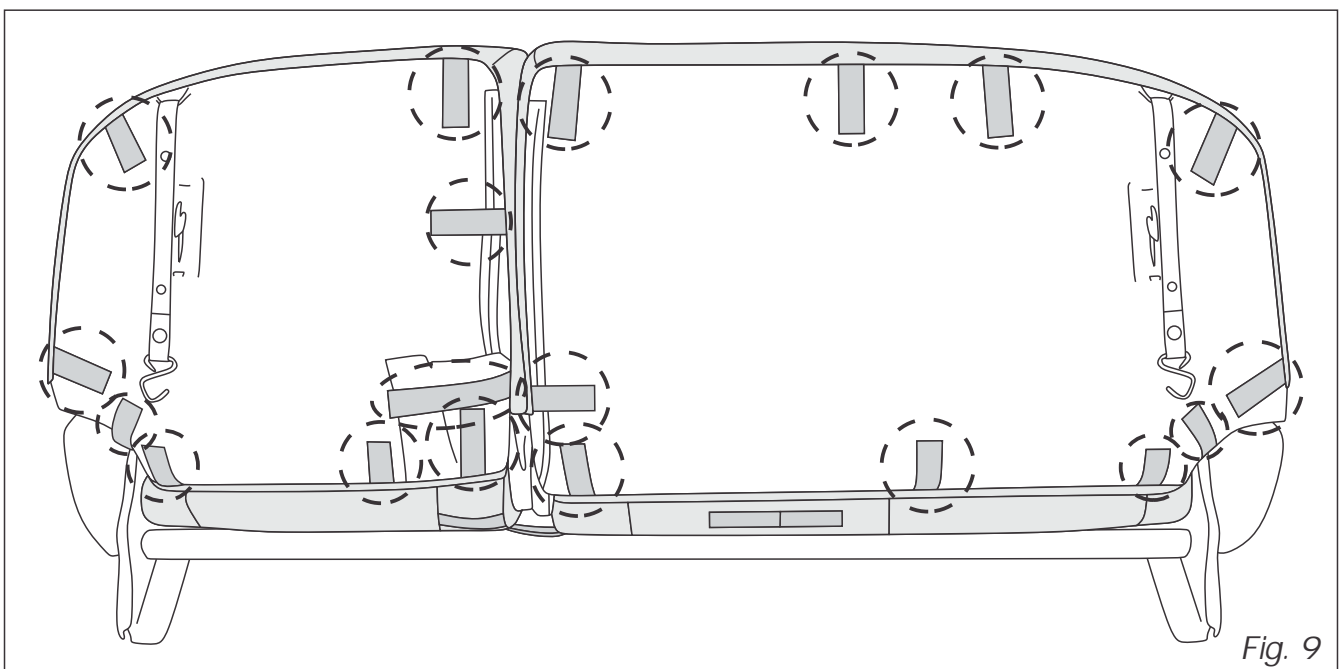

Fig. 9
9. Fold the seat bases up and attach the hook tapes underneath (Fig 9).